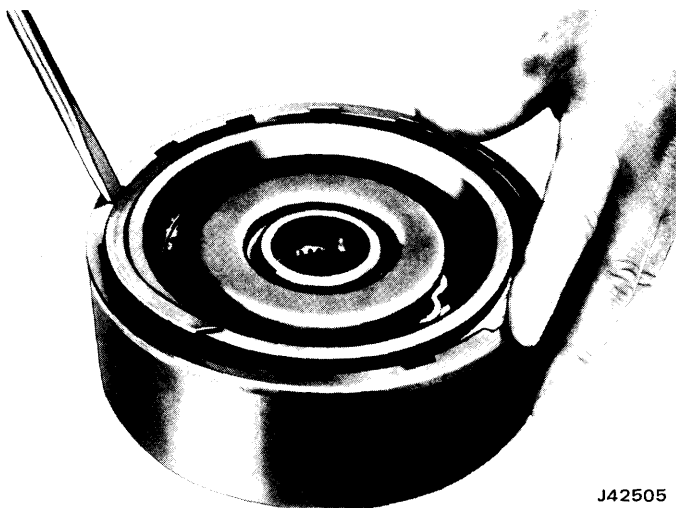

Fig. 7-80 Removing Direct Clutch Snap Ring
(3) Remove snap ring attaching backing plate to direct clutch housing (fig. 7-80).